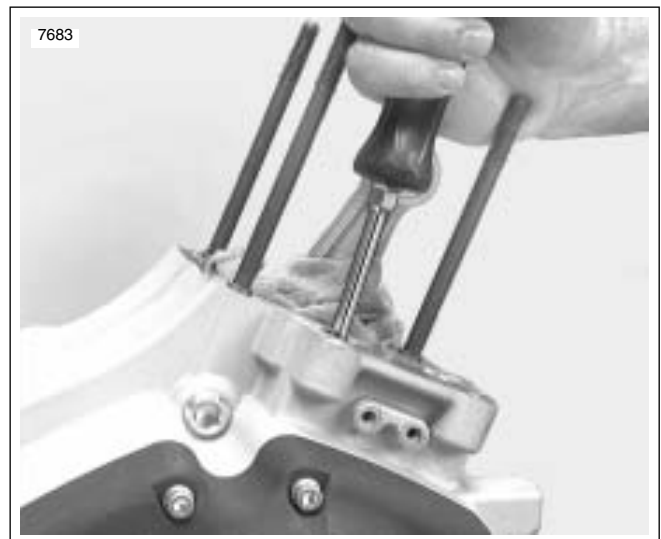

Figure 3-110. Checking Cam Gear End Play
6. See Figure 3-110. Check cam gear end play for each cam gear as follows: